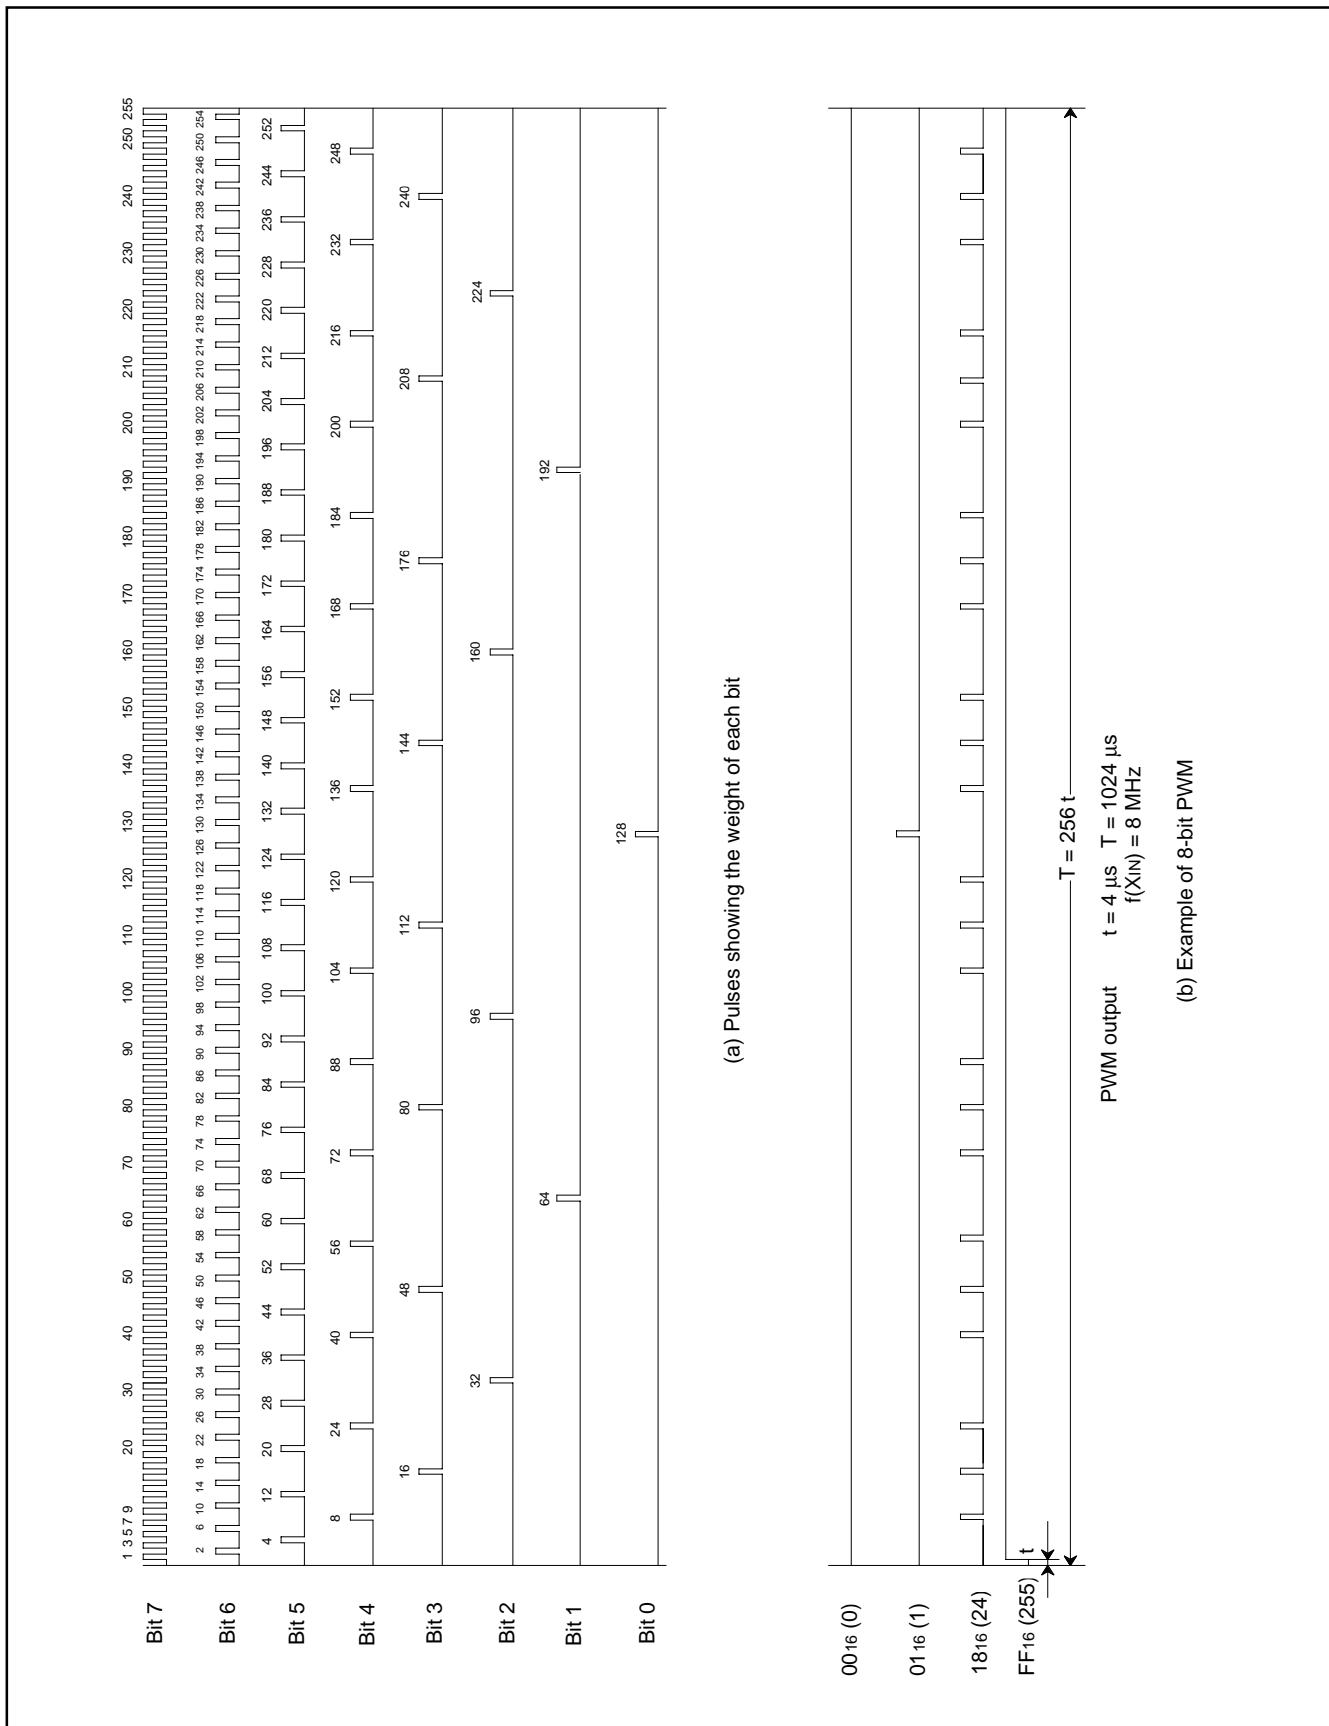

Fig. 8.7.2 PWM Timing
Figure 8.7.2 shows the 8-bit PWM timing. One cycle (T) is composed of 256 (28) segments. The 8 kinds of pulses, relative to the weight of each bit (bits 0 to 7), are output inside the circuit during 1 cycle. Refer to Figure 8.7.2 (a). The 8-bit PWM outputs waveform which is the logical sum (OR) of pulses corresponding to the contents of bits 0 to 7 of the 8-bit PWM register. Several examples are
shown in Figure 8.7.2 (b). 256 kinds of output (HIGH area: 0/256 to 255/256) are selected by changing the contents of the PWM register. A length of entirely HIGH output cannot be output, i.e. 256/256.